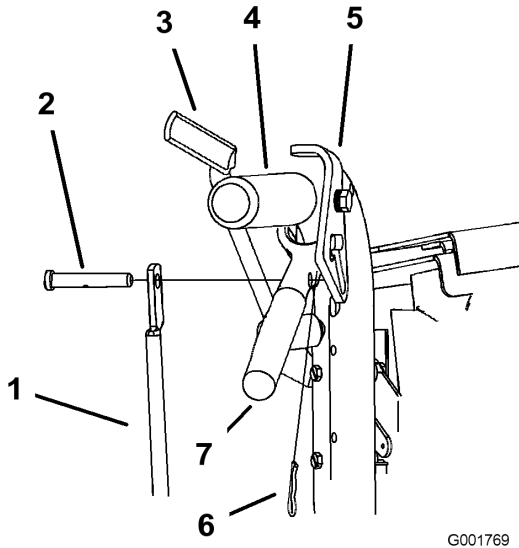

Figure 45
1. Remove the hairpin cotter pins and clevis pins from the drive levers and neutral locks (Figure 45).
3. Install the control rod to the drive lever and the neutral/parking brake lock. Secure the control rod with a clevis pin and a hairpin cotter (Figure 45).